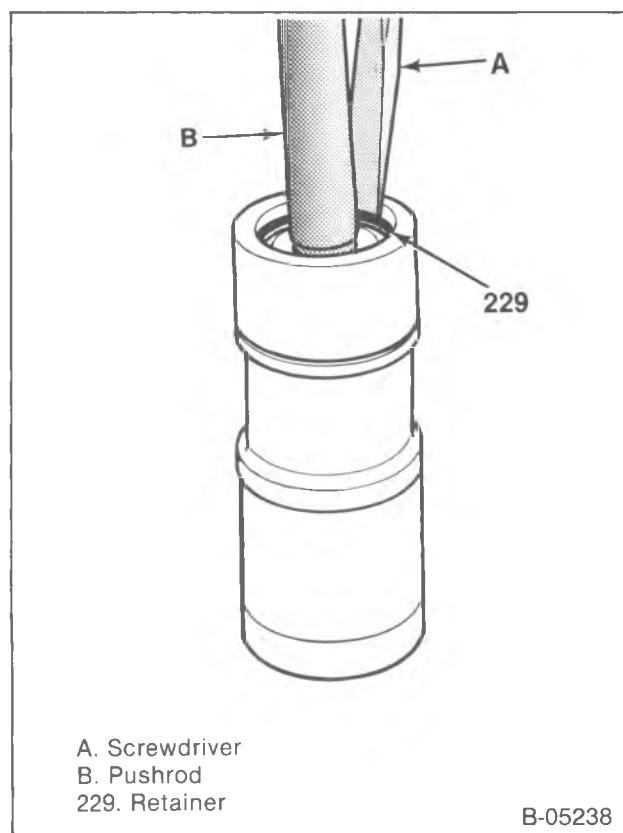
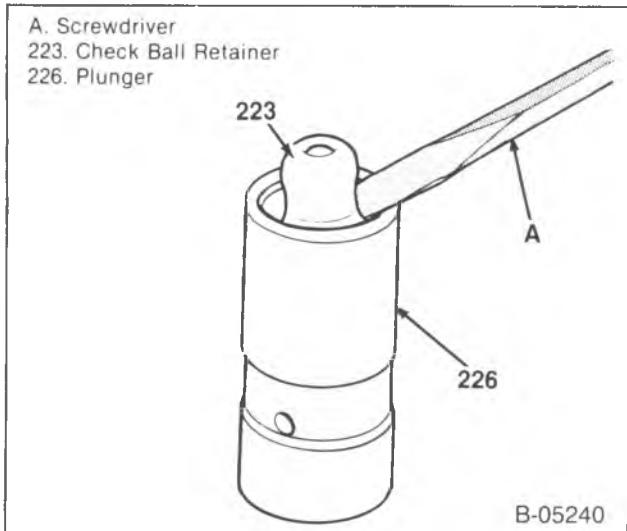

Figure 25—Removing the Retainer (Typical)
Figure 26—Removing the Check Ball Retainer (Typical)
- Retainer (figure 25).
- Push the pushrod seat (228) down, using a pushrod.
- Pushrod seat (228).
- Metering valve (227).
- Plunger (226) and plunger spring (222).
- Check ball retainer (223), check ball spring (224), and check ball (225). Pry the check ball retainer from the plunger, using a small screwdriver (figure 26).